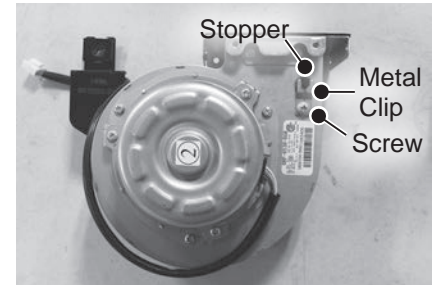

Figure 107 - Stopper installation
**27** Remove the screw securing the metal clip and stopper to the old fan assembly. Place screw in a safe place for reinstallation. See Figure 107.
**28** Using the new metal clip, secure the new stopper to the new fan assembly with the screw removed in **Step 27**. See Figure 107. Dispose of old fan assembly properly.